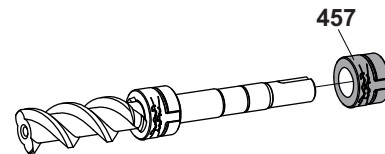

Fig. 13
4. Slide the remaining parts of the mechanical seal 457 onto the main screw, see Fig. 13.